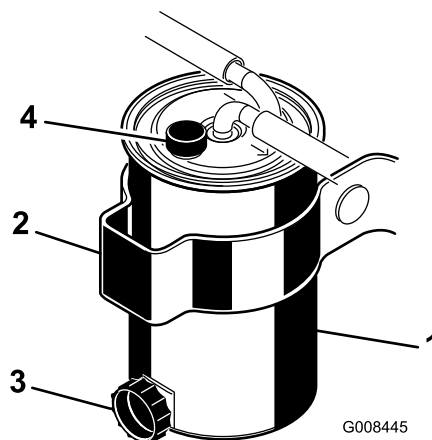

Figure 47
2. Clean the area where the filter canister mounts (Figure 47).
4. Open the filter drain plug and breather valve (Figure 47).